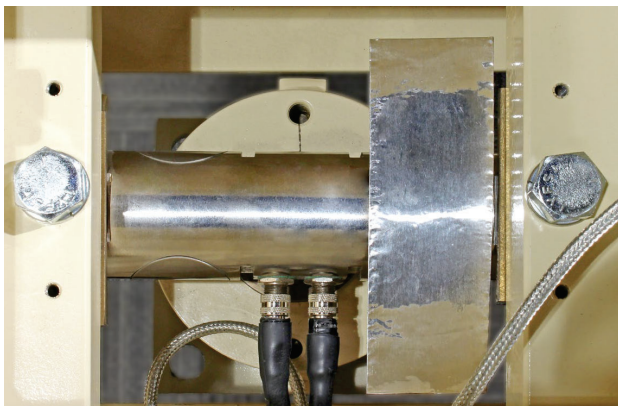

Figure No. 1
3. Remove the tape backing, determine the middle of tape length, and then place tape at top center of the load cell as shown in Figure No. 1. Press down on the tape at the top center of the load cell, and begin wrapping the tape around the load cell. First on one end of the tape until it is over the load cell cover on one side, and then on the other end of the tape until it is over the load cell cover on the opposite side.